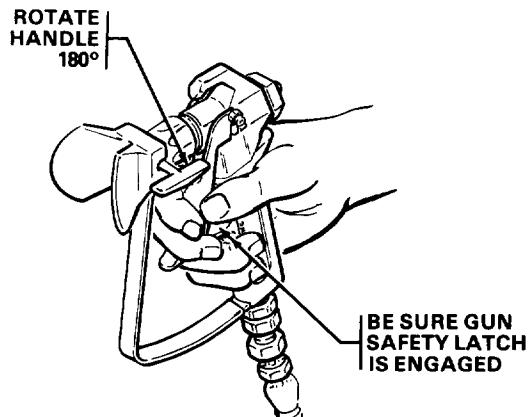

Fig 6
- b. If the spray tip does clog, release the gun trigger, engage the gun safety, and rotate the RAC III handle 180°. See Fig 6.